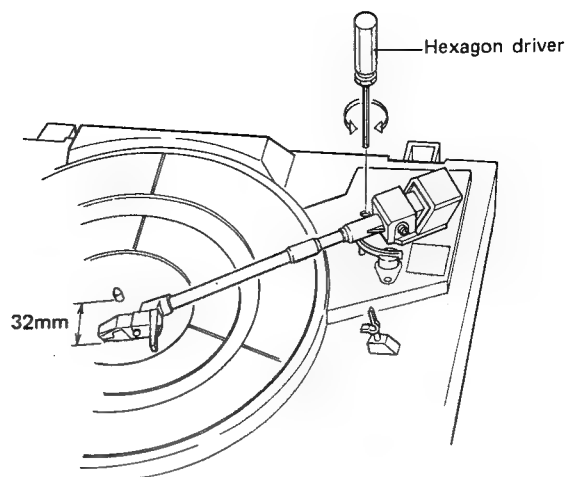

Fig. 11-3 Auto-return position adjustment
5. Stop turning the adjustment screw at the point at which there is a space of 32 mm between the cartridge stylus and the center shaft. (Fig. 11-3)